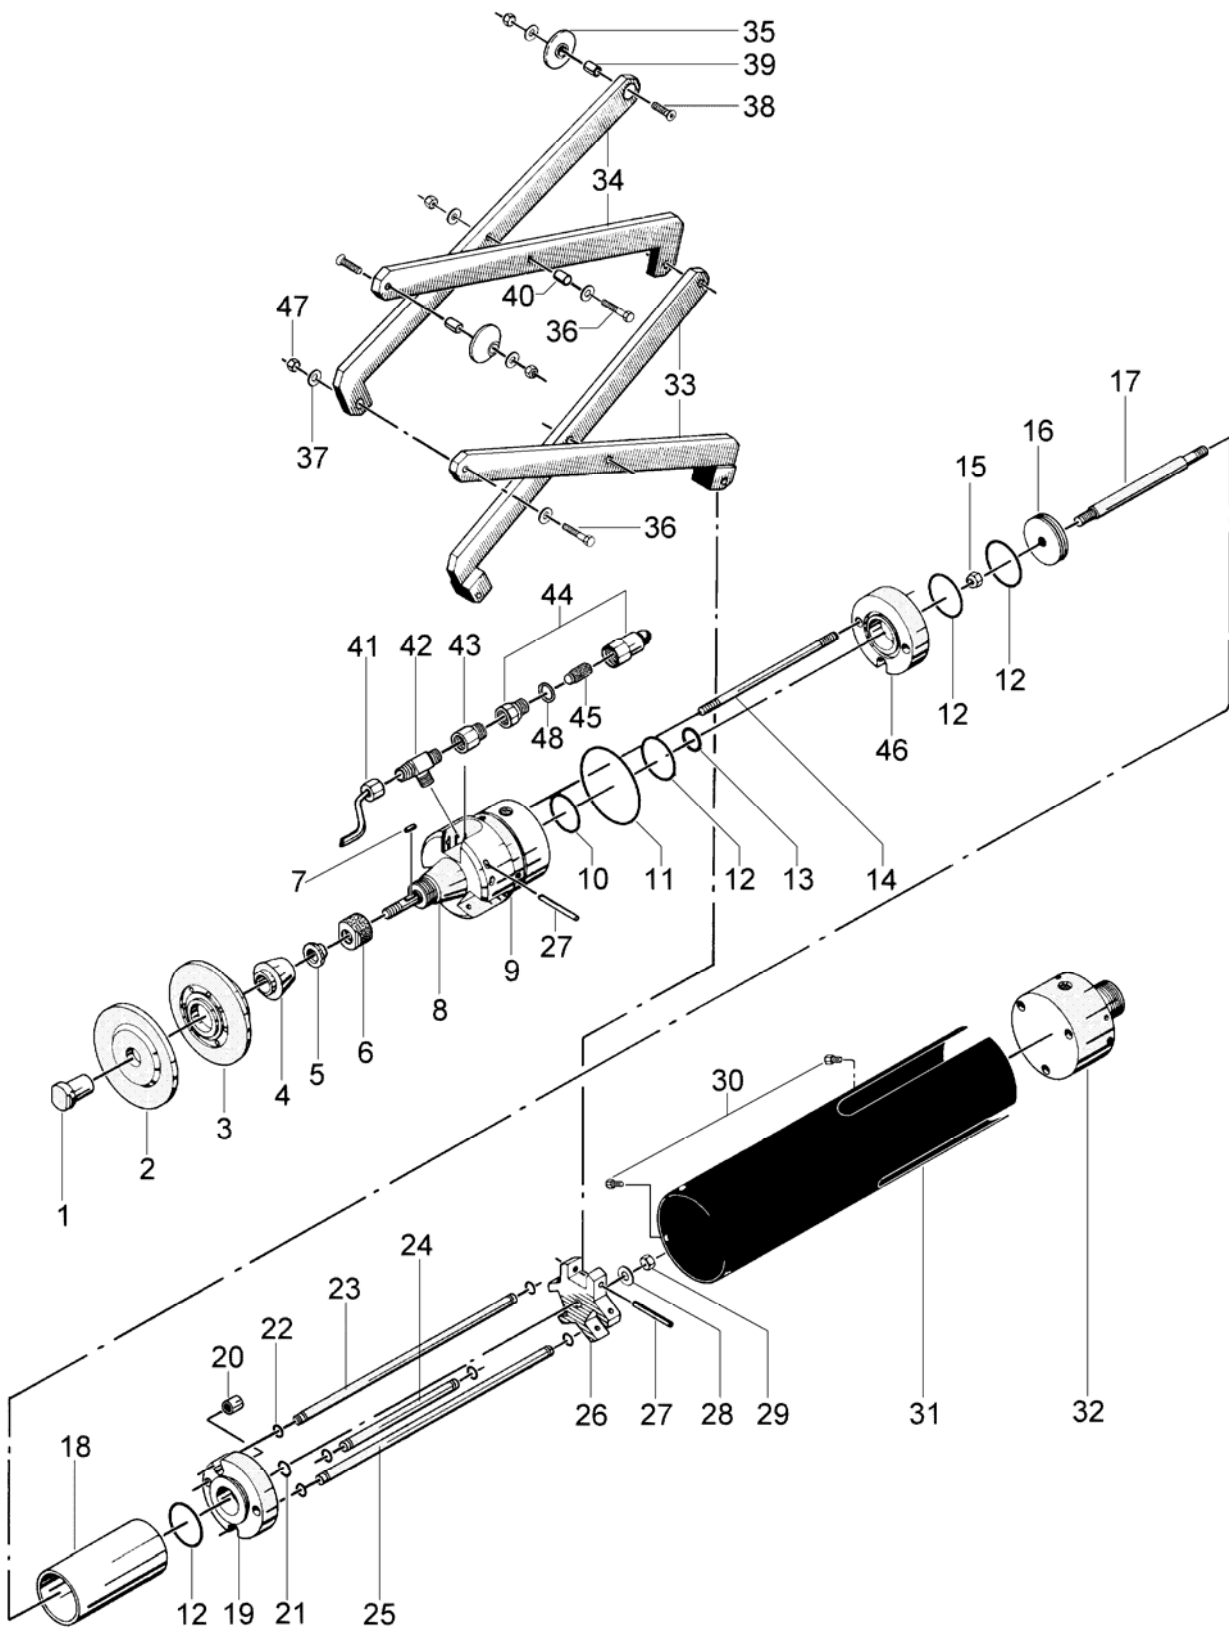

Figure 3
6.3 PIPECOATER-II Tool, less Hoses and Gun (see Figure 3, page 8)71025